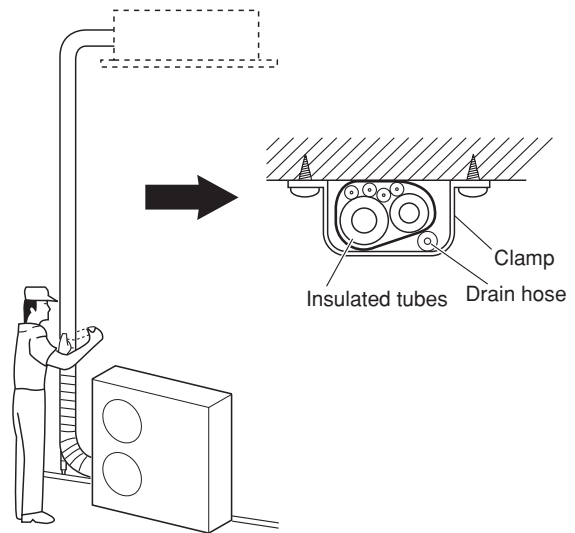

Fig. 4-12
- (1) At this time, the refrigerant tubes (and electrical wiring if local codes permit) should be taped together with armoring tape in 1 bundle. To prevent the condensation from overflowing the drain pan, keep the drain hose separate from the refrigerant tubing.
- (2) Wrap the armoring tape from the bottom of the outdoor unit to the top of the tubing where it enters the wall. As you wrap the tubing, overlap half of each previous tape turn.
- (3) Clamp the tubing bundle to the wall, using 1 clamp approx. each meter. (Fig. 4-12)